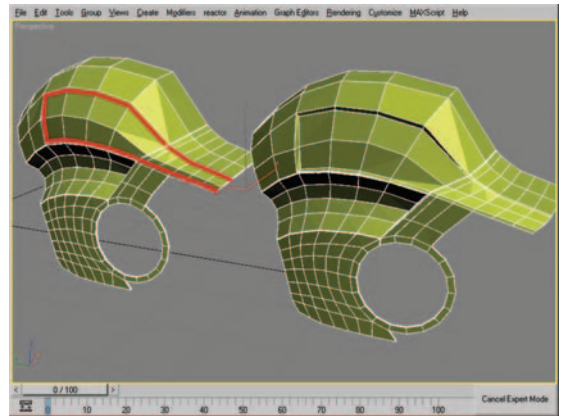

Figure 8.43 Edge selection and resulting mesh after moving the edges to create an indentation in the tank.
44. Select the 22 edges shown in Figure 8.43 (left) and, using the Move tool, move them back (along the positive X-axis) to create a small recessed area in the tank and seat panel (Figure 8.43, right).